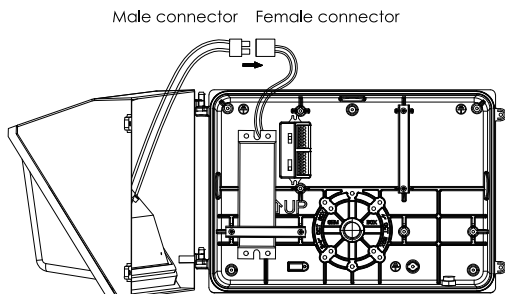
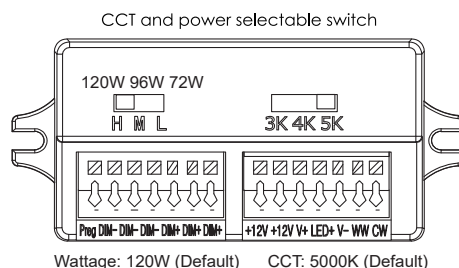

figure 3.1
figure 3.2
Step 3 Connect the male and female connectors together, and select your required CCT and power by the DIP switch. (figure 3.1) (figure 3.2)